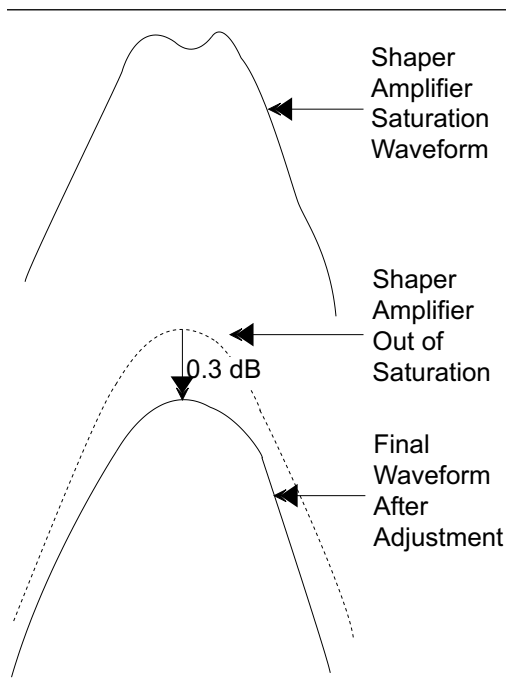

Figure 4-6. Limiter DAC Adjustment Waveforms
- c.** Observe the displayed waveform to determine whether the shaper amplifier is being driven to saturation. This is indicated by a dip in the top of the triangle waveform (Figure 4-6).